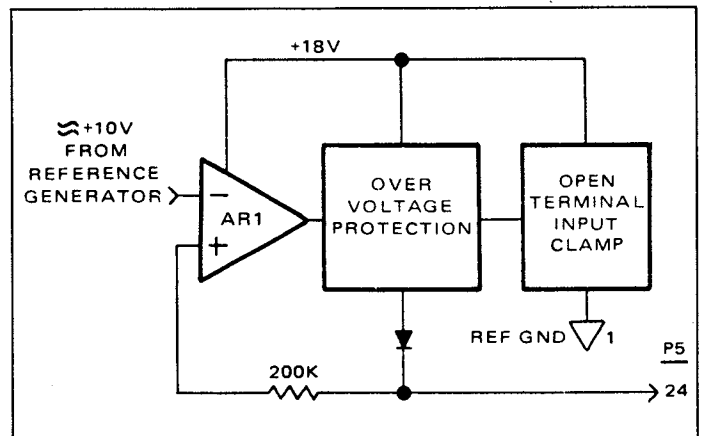

Figure 4.11 - KΩ Reference Generator
4.3.10.1 The KΩ reference generator provides a stable 10 volt reference voltage for application to the ohms source terminal via the attenuator circuit. The circuit is shown in simplified form in figure 4.11 and schematically on sheet 2